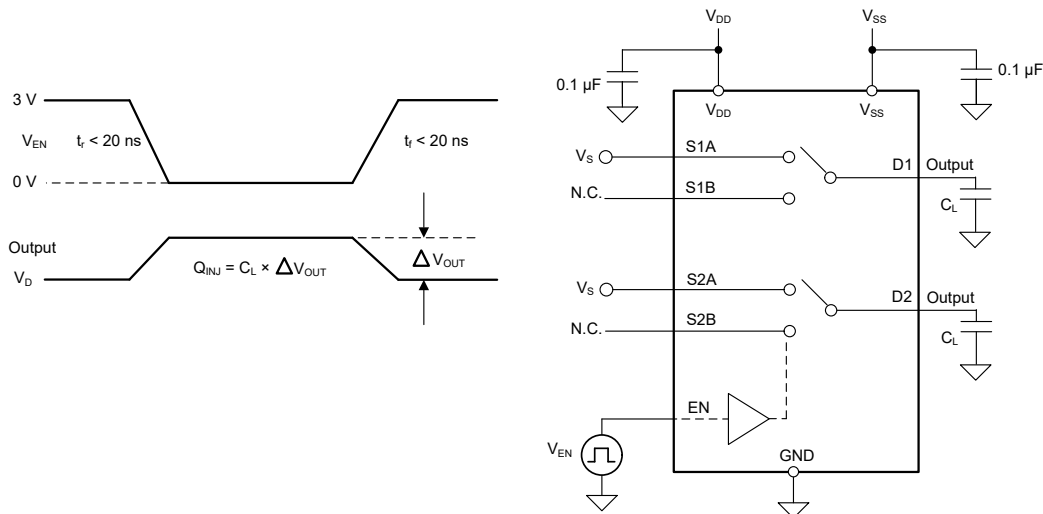

図 6-9. Charge-Injection Measurement Setup
The TMUX7236 has a transmission-gate topology. Any mismatch in capacitance between the NMOS and PMOS transistors results in a charge injected into the drain or source during the falling or rising edge of the gate signal. The amount of charge injected into the source or drain of the device is known as charge injection, and is denoted by the symbol Q_{INJ} . 図 6-9 shows the setup used to measure charge injection from source (Sx) to drain (D).